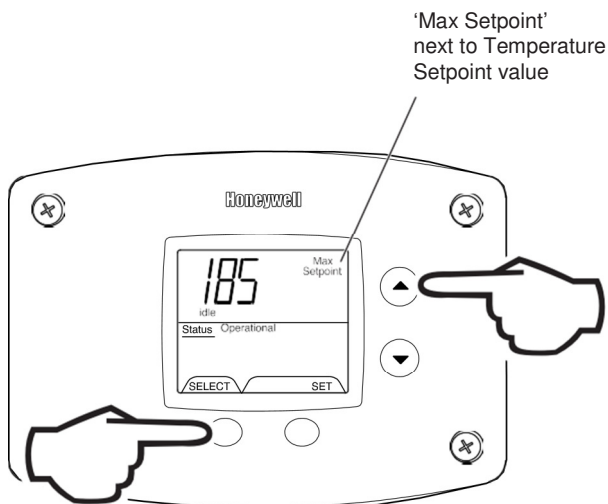

Figure 26
1. Press 'Select' and 'Temperature Up' buttons together and hold for 3 seconds until 'Max Setpoint' is shown in the display (Fig. 26).